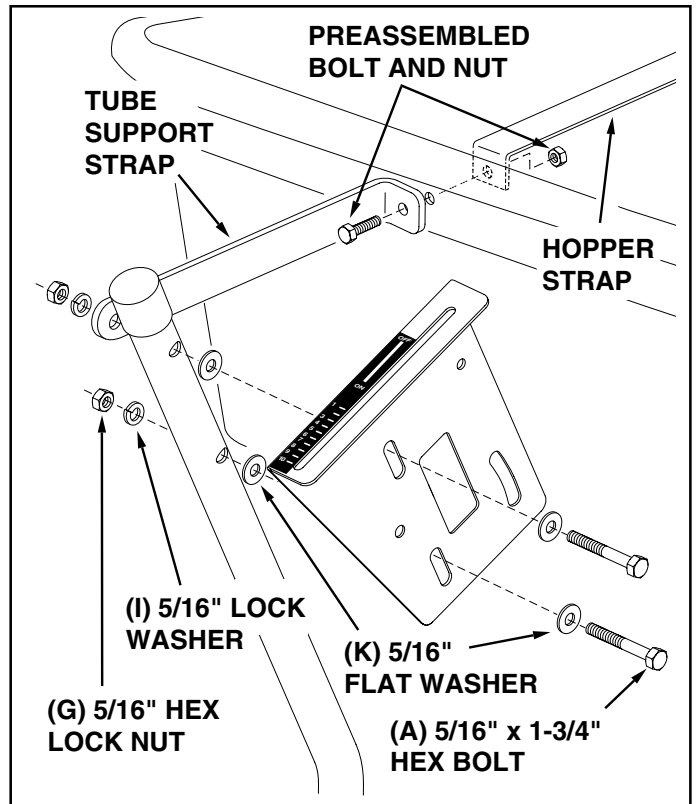

FIGURE 6
15. Assemble the flow control mounting bracket and the tube support strap to the flow control mounting tube using two 5/16" x 1-3/4" hex bolts (A), four 5/16" washers (K), two 5/16" lock washers (I) and two 5/16" hex lock nuts (G). **DO NOT TIGHTEN YET**. See figure 6.
16. Remove the preassembled bolt and nut from the front of the hopper. Attach the tube support strap to the hopper and hopper strap using the bolt and nut you removed. **TIGHTEN**. See figure 6.